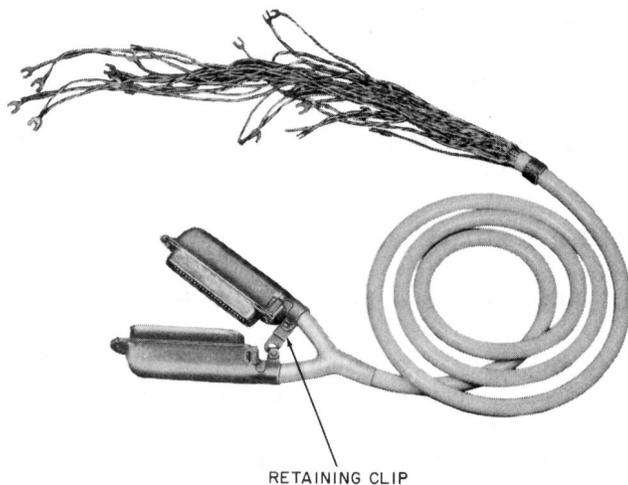

Fig. 1—148A (MD) or 148B (MD) Adapter
##### A. 148A (MD) and 148B (MD) Adapters (Fig. 1)
- Connectors are held together by a retaining clip (Fig. 1) for protection during shipment.
- The 148B (MD) adapter is identical to the 148A (MD) adapter, except the cordage incorporates the even-count color code. The 148B-87 adapter replaced the 148B-49 (MD) adapter. The 148B-87 (MD) is identical to the 148B-49 (MD) except the 148B-87 (MD) is equipped with a satin-silver cord.